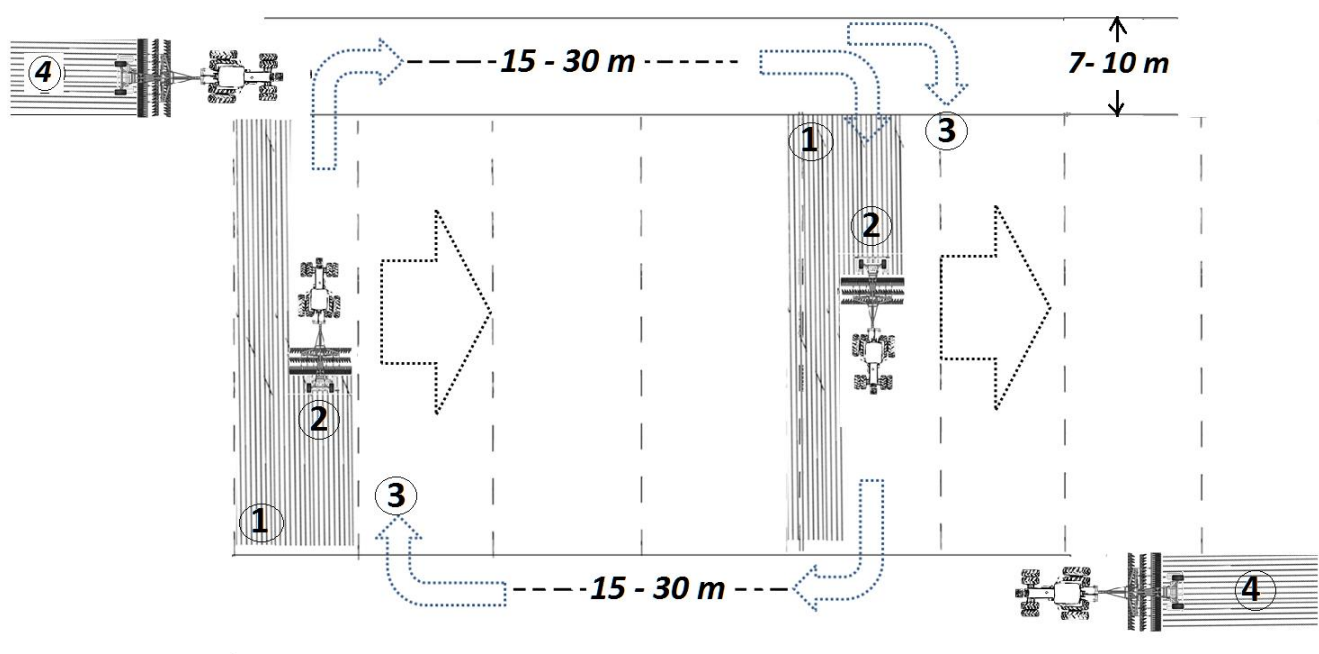

FIGURE 10
- Preferred tillage techniques are applied. (Figure 10)